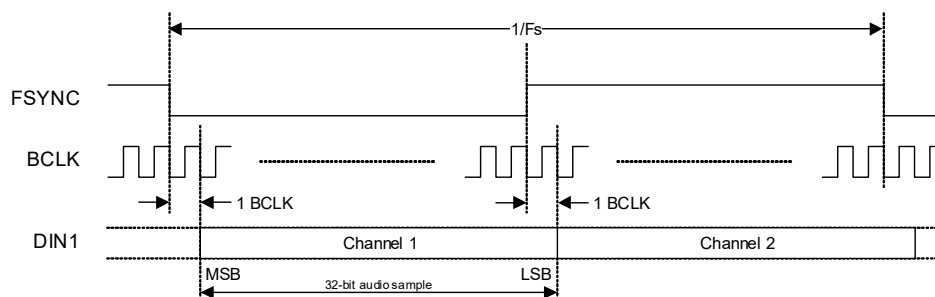
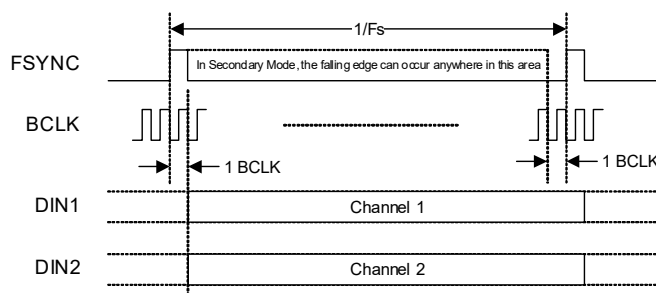

Figure 4-10. I²S Data Format
Figure 4-13. TDM Data Format—2 x DIN
The ASP data format in I²S, Left-Justified, and TDM interface modes as illustrated in Fig. 4-10 through Fig. 4-13. Refer to Table 4-12 for the applicable definition.
- If I²S data format is selected, the ASP supports audio channels 1–2 as shown in Fig. 4-10. The minimum BCLK rate is 64 fs (where fs is the sample rate). A higher BCLK frequency can be used, resulting in unused BCLK cycles between the LSB of one sample and the MSB of the next.
The 1-slot TDM format is shown in Fig. 4-13.